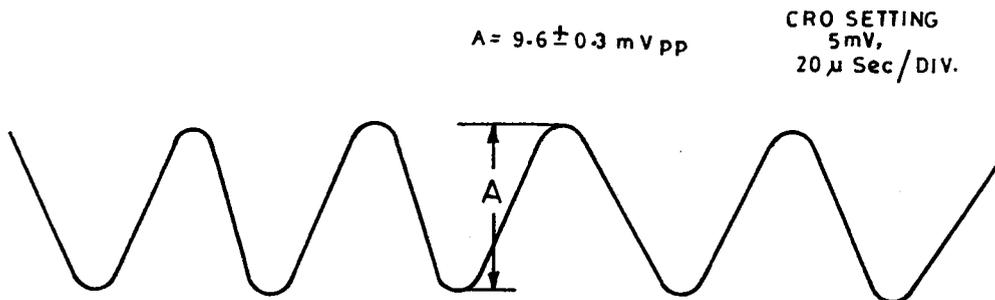

Fig. 11.24
4. Adjust audio bias current adjustment control R 4048 on the audio section so that the wave form becomes $9.6 \pm 0.3 \text{ mV P-P}$ as shown in fig. 11.24.